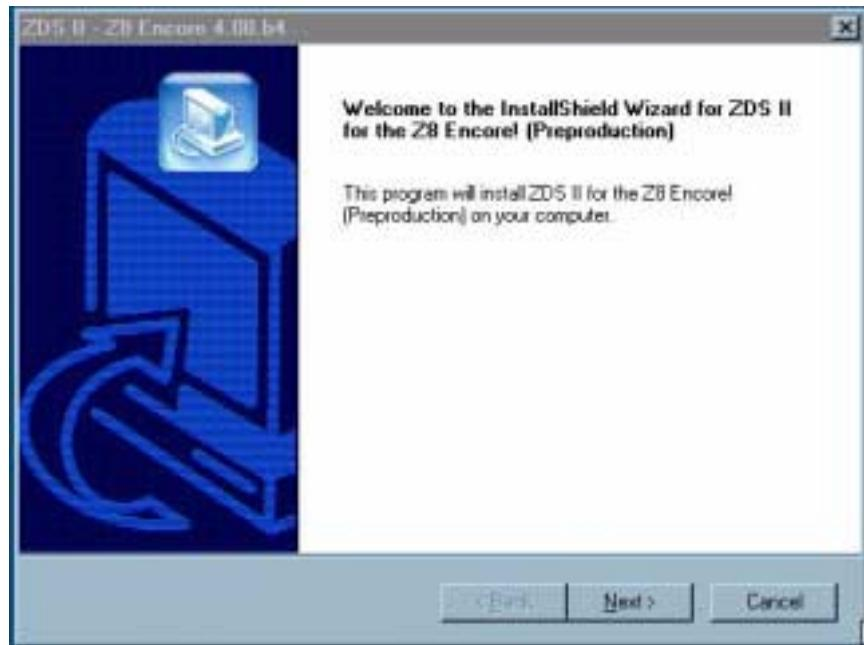

Figure 7. Installation Wizard (Reference Only)
1. Load the ZDS II-Z8 Encore™ Flash Microcontroller CD into the CD-ROM drive of the host PC. The CD launches automatically and displays the Installation Wizard (Figure 7).